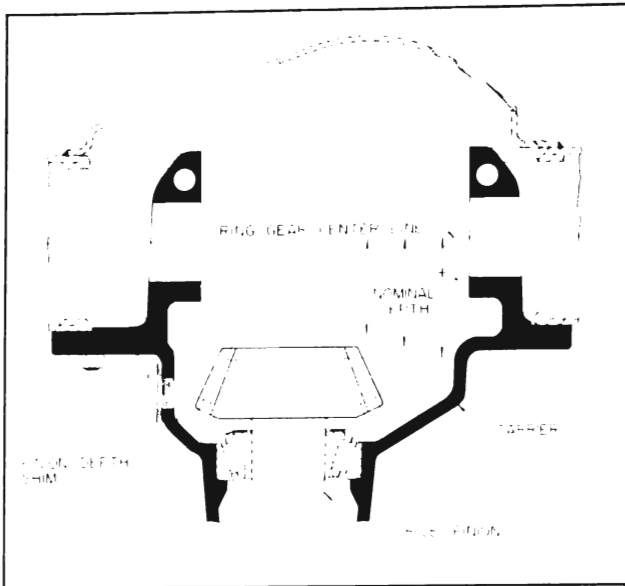

Figure 6-24—Nominal Pinion Depth Setting
6-23. When a pinion is marked “+” (plus) it means that the rear face of the pinion when pressed in the carrier must be at the “nominal” distance from the centerline of the side bearing pedestals plus the amount indicated on the pinion tooth. When a pinion is marked “-” (minus) it means that it must be located at the “nominal” distance minus the amount indicated on the pinion tooth. See Figure 6-24.
3. Increase or decrease thickness of shim as required to obtain proper pinion setting. See Figure 6-24.